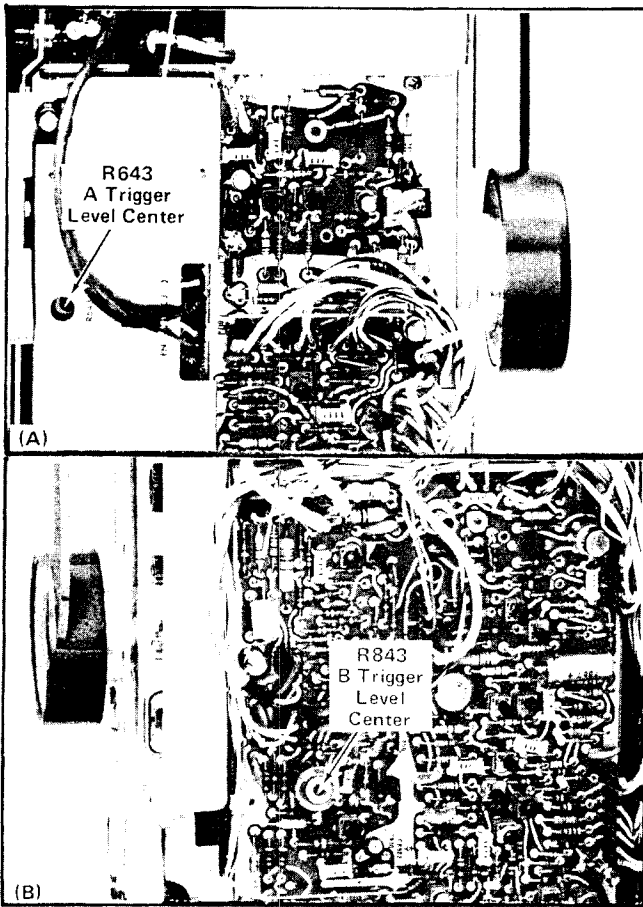

Fig. 5-14. (A) Location of A Trigger Level Center adjustment (A Sweep circuit board). (B) Location of B Trigger Level Center Adjustment (B Sweep circuit board).
- f. ADJUST—A Trigger Level Centering adjustment R643 (see Fig. 5-14) for a stable display.
- j. ADJUST—B Trigger Level Centering adjustment R843 (see Fig. 5-14) for a stable display.